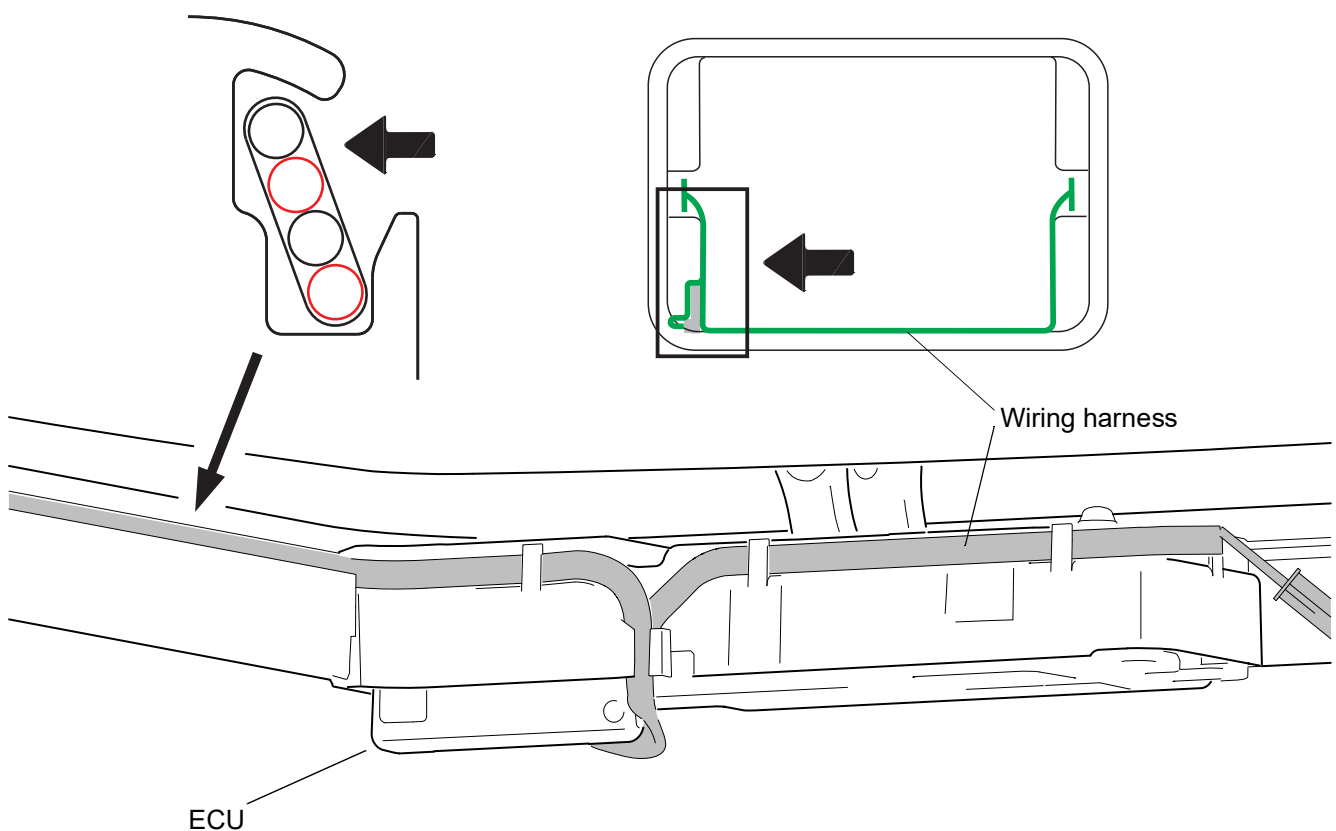

Fig. 807 Wiring harness installation
3. Insert the wiring harness in the guides of the corner pieces and in the groove of the aluminum profile (see Fig. 807).